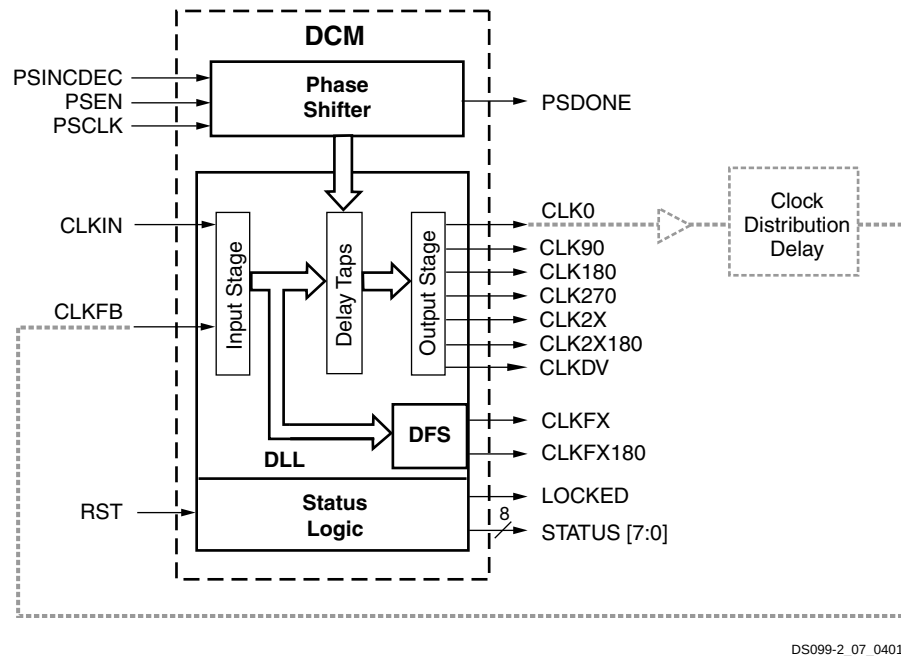

Figure 19: DCM Functional Blocks and Associated Signals
The DCM has four functional components: the Delay-Locked Loop (DLL), the Digital Frequency Synthesizer (DFS), the Phase Shifter (PS), and the Status Logic. Each component has its associated signals, as shown in Figure 19.